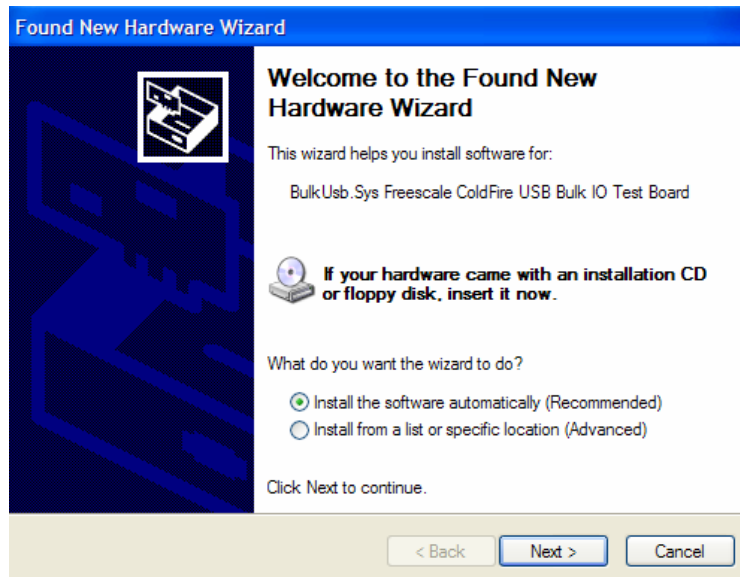

Figure 3. Pop-up Window after Connecting the M5221DEMO Board
6. The message in Figure 3 appears. Select the “Install from a list or specific location” option.